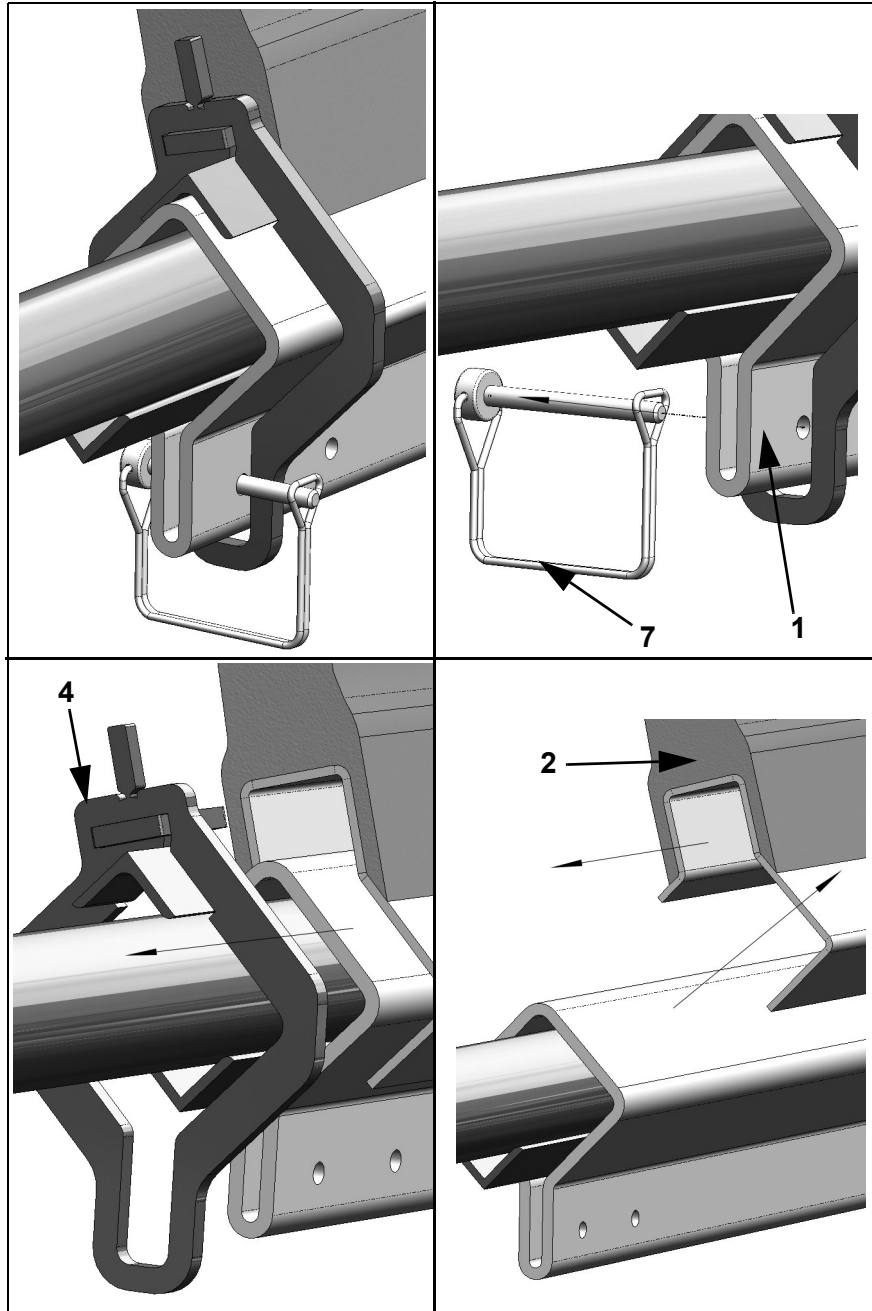

Fig. 3: Removing the blade
- Open the pin hitch (7, Fig. 3) and remove it from the mainframe (1, Fig. 3).
- Pull the blade stop (4 or 3, Fig. 3) out of the mainframe from the side.
- Pull the blade (2, Fig. 3) laterally out of the blade stop on the far side and then pull it upwards and out.
3. Slide the two blade stops (4 and 3, Fig. 3) onto the right and left sides of the mainframe (1, Fig. 3).
5. Do not lock the mainframe yet, but place the blade (2, Fig. 3) on the mainframe.